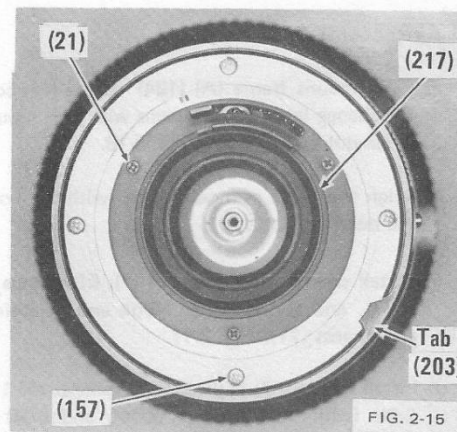

FIG. 2-15
- a) Remove three screws (21) and shade pipe (217). Fig. 2-15.
- b) Remove four screws (157); lift off mount in an upward angled movement, so that mount clears tab on aperture ring (203). Fig. 2-15.